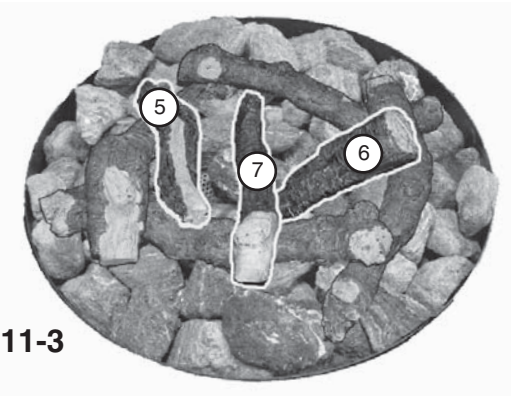

Fig. 11-3
4. Lay the remaining logs across the already positioned logs in an attractive pattern (see Fig. 11-3).